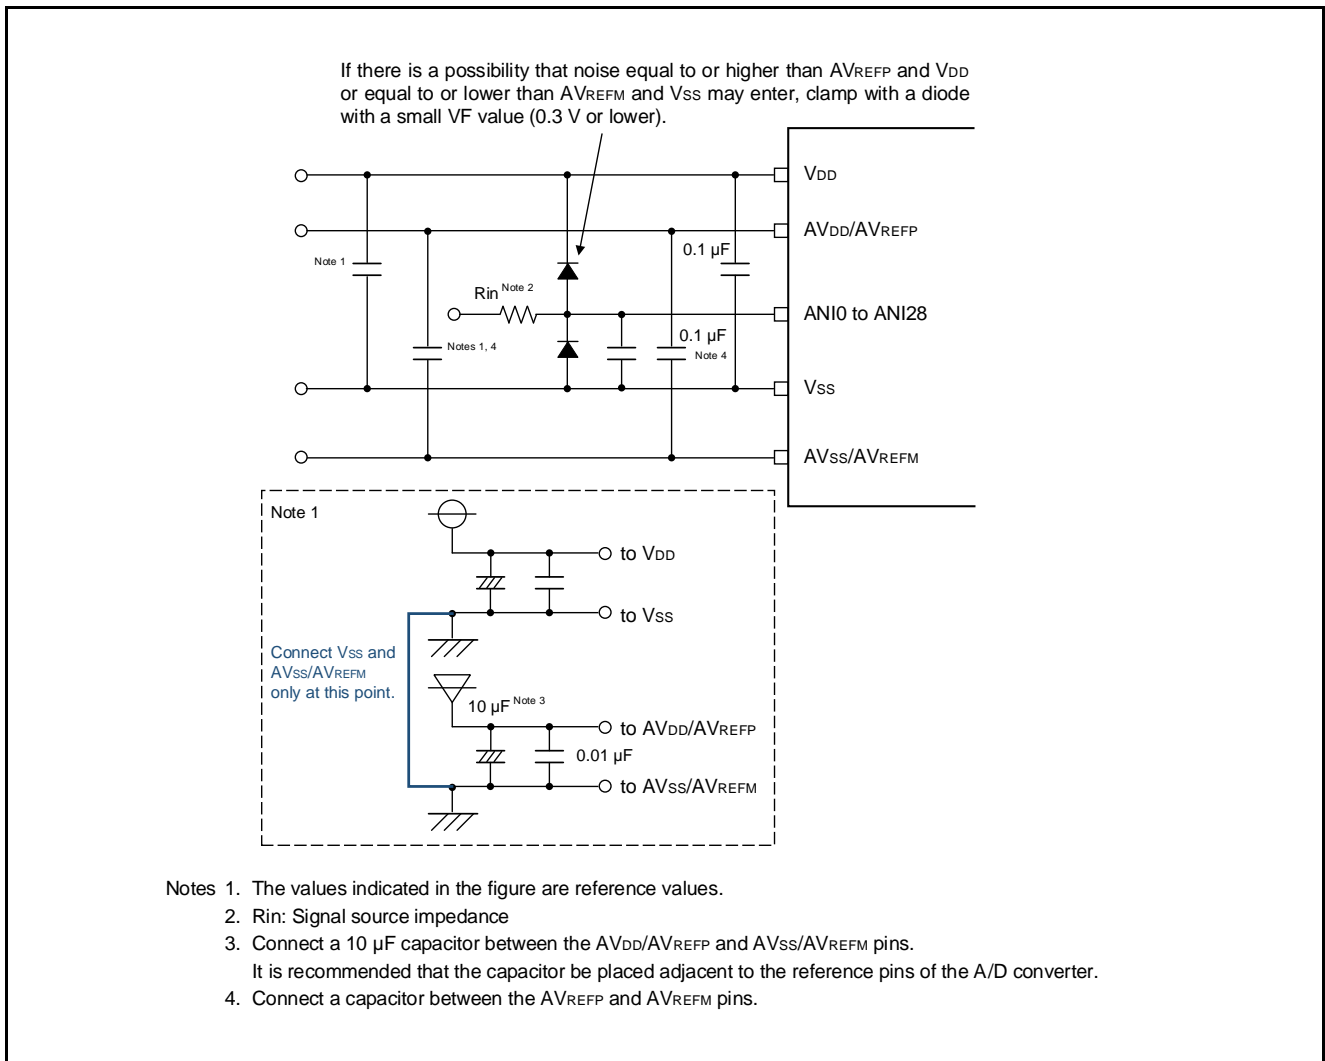

Figure 12: Sample Protection Circuit for Analog Inputs
- To prevent the analog input pins (ANI0 to ANI28) from being destroyed by abnormal voltage such as excessive surge, a capacitor should be inserted between V_{DD} and V_{SS} and between AV_{DD}/AV_{REFP} and AV_{SS}/AV_{REFM} , and a protection circuit should be connected to protect the analog input pins (ANI0 to ANI28) as shown in Figure 12.